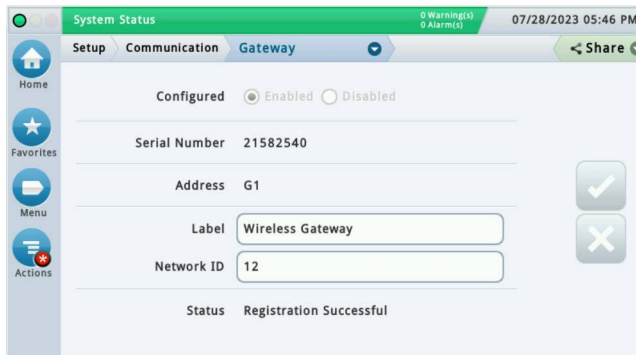

Figure 26. Gateway Network ID Reconfiguration Complete
- Gateway reconfiguration has completed when the Network ID field reappears and the * is removed from next to the Network ID field (see Figure 26).